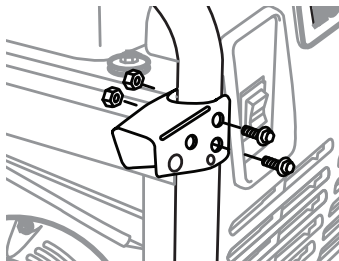

FIGURE 10: Handle Bracket to Frame
- Handle brackets (2)
- Handle bars (2)
- Pins (2)
- Chains (2)
- Rubber handle grips (2)
- M6 x 40 mm long flange-head hex bolts (6)
- M6 serrated flange nuts (6)
1. Hold handle bracket over pre-drilled holes on frame as shown in Figure 10.